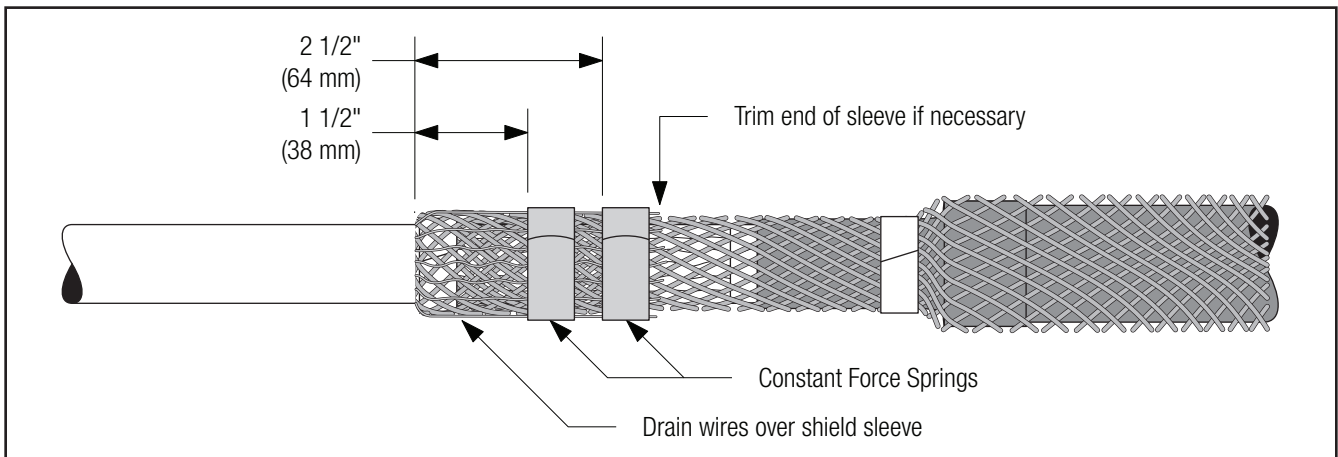

Figure 29
6.4.2 Bend ends of sleeve back over vinyl tape. Carefully position drain wires over the shield sleeve. Secure with constant force springs 1 1/2" (38 mm) and 2 1/2" (64 mm) onto drain wires. Trim off excess sleeve 1/2" (13 mm) from springs, if necessary (Figure 29).